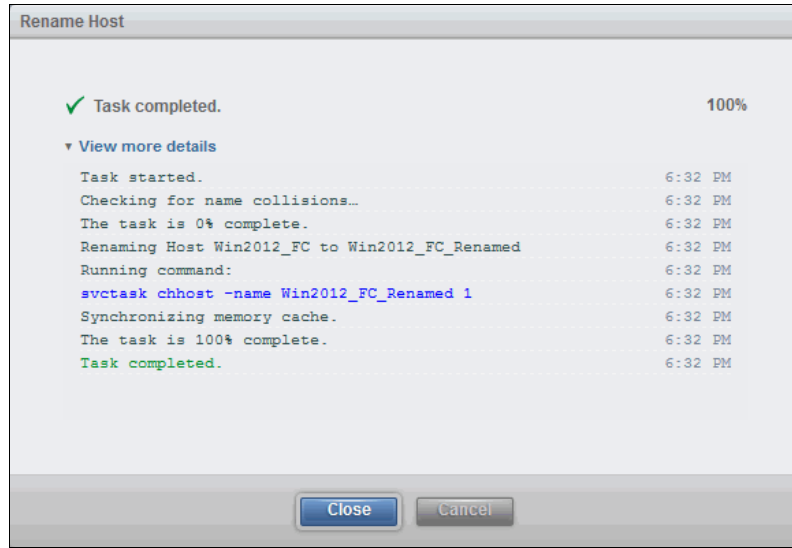

Figure 8-18 Rename a host task completed
3. After the changes are applied to the system, click **Close**, as shown in Figure 8-18.